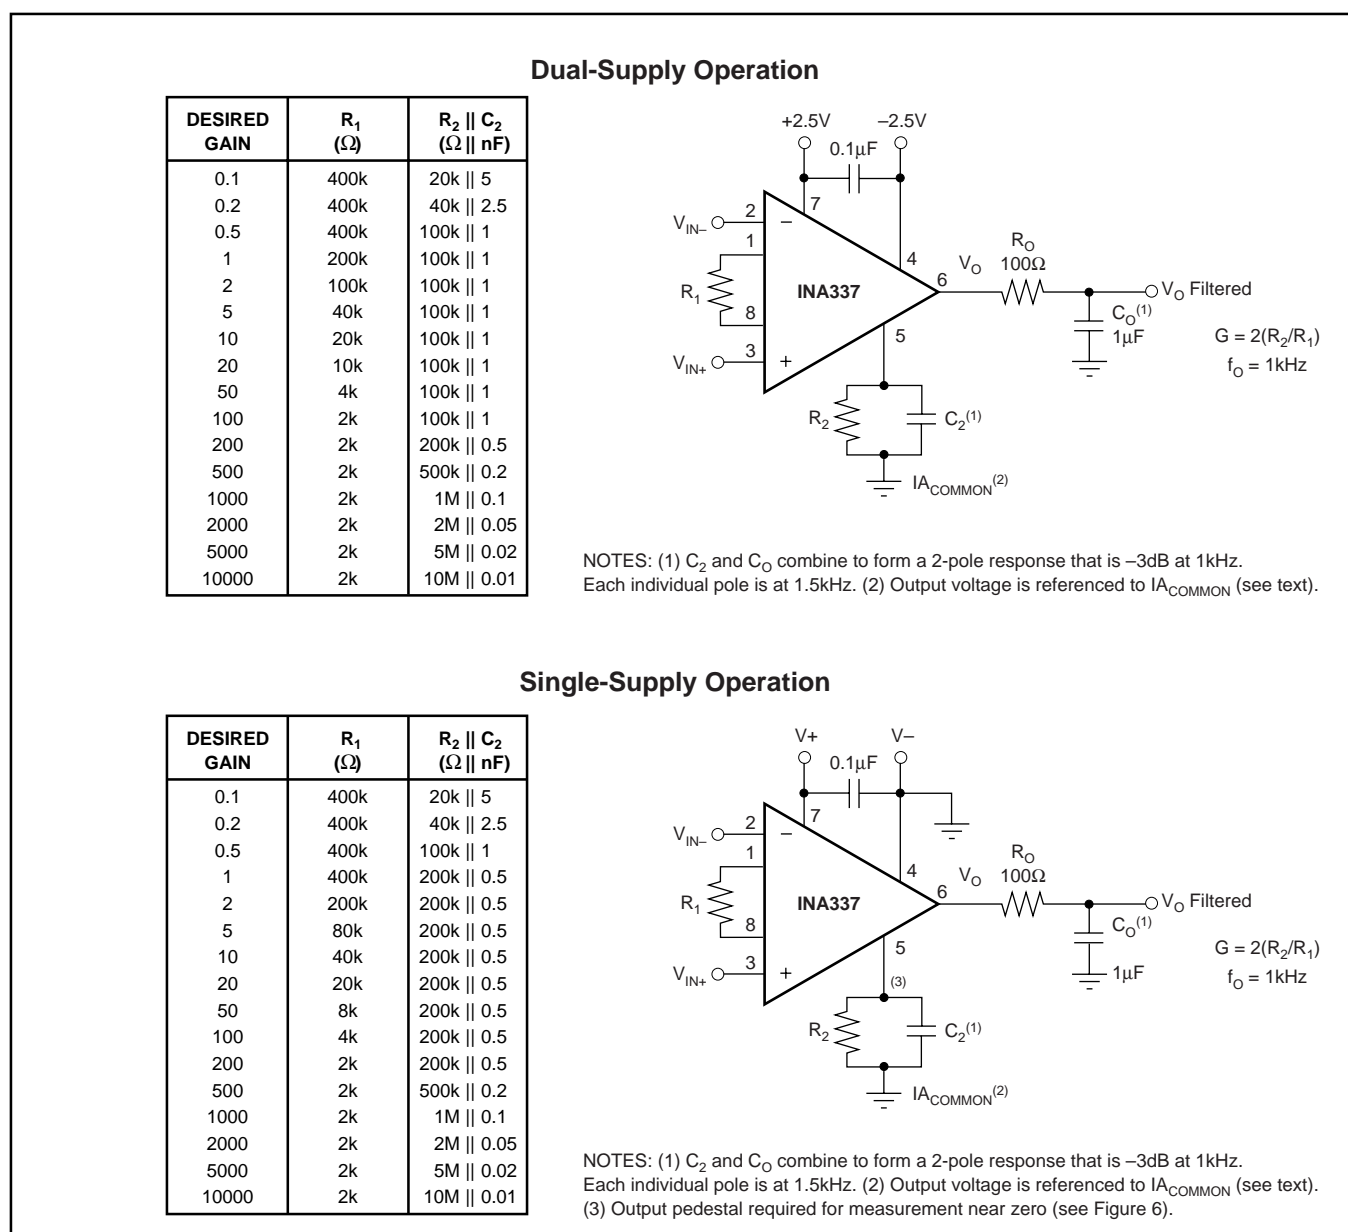

FIGURE 1. Basic Connections. NOTE: Connections for INA338 differ—see Pin Configuration for detail.
NOTES: (1) 1000-hour life test at $150^{\circ}C$ demonstrated randomly distributed variation in the range of measurement limits—approximately $10\mu V$. (2) See Applications Information section, Figures 1 and 2. (3) Does not include error and TCR of external gain-setting resistors. (4) Dynamic response is limited by filtering. Higher bandwidths can be achieved by adjusting the filter. (5) See Typical Characteristics, "Input Offset Voltage vs Warm-Up Time".
Figure 1 shows the basic connections required for operation of the INA337. A 0.1µF capacitor, placed close to and across the power-supply pins is strongly recommended for highest accuracy. R_OC_O is an output filter that minimizes auto-correction circuitry noise. This output filter may also serve as an anti-aliasing filter ahead of an Analog-to-Digital (A/D) converter. It is also optional based on desired precision.
Resistor values for commonly used gains are shown in Figure 1. Gain-set resistor values for best performance are different for +5V single-supply and for ±2.5V dual-supply operation. Optimum value for R₁ can be calculated by:
Circuit layout and supply bypassing can affect performance. Minimize the stray capacitance on pins 1 and 8. Use recommended supply bypassing, including a capacitor directly from pin 7 to pin 4 ($V+$ to $V-$), even with dual (split) power supplies (see Figure 1).